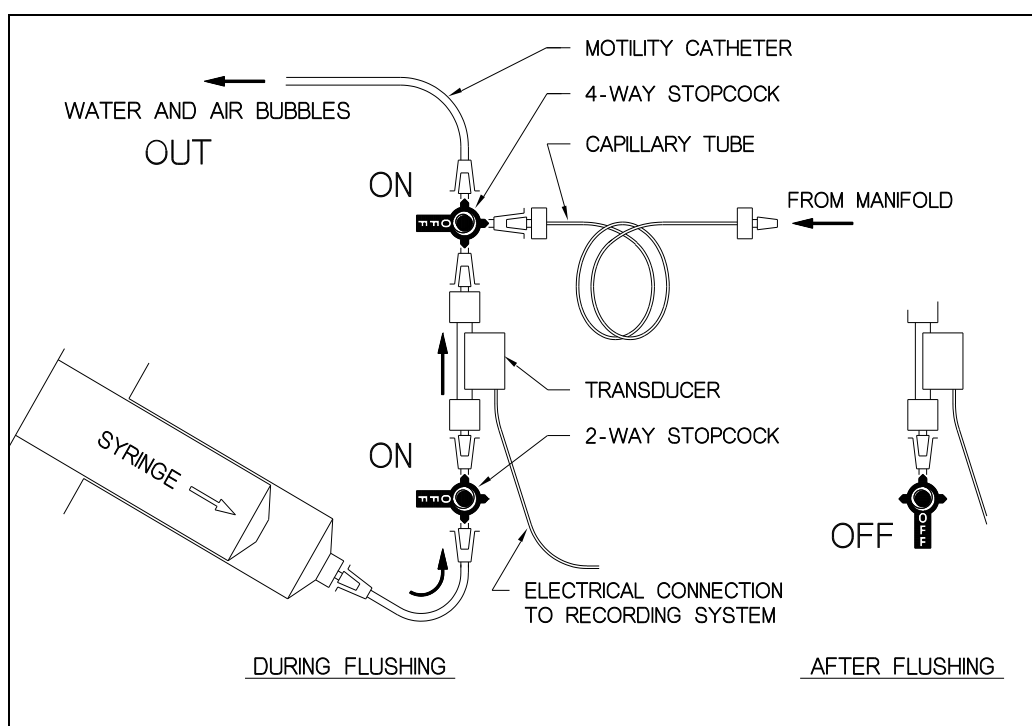

Figure 16. Purging Air from System Using a Syringe
- Attach a large syringe filled with sterilized irrigation water to the bottom stopcock (Figure 16).